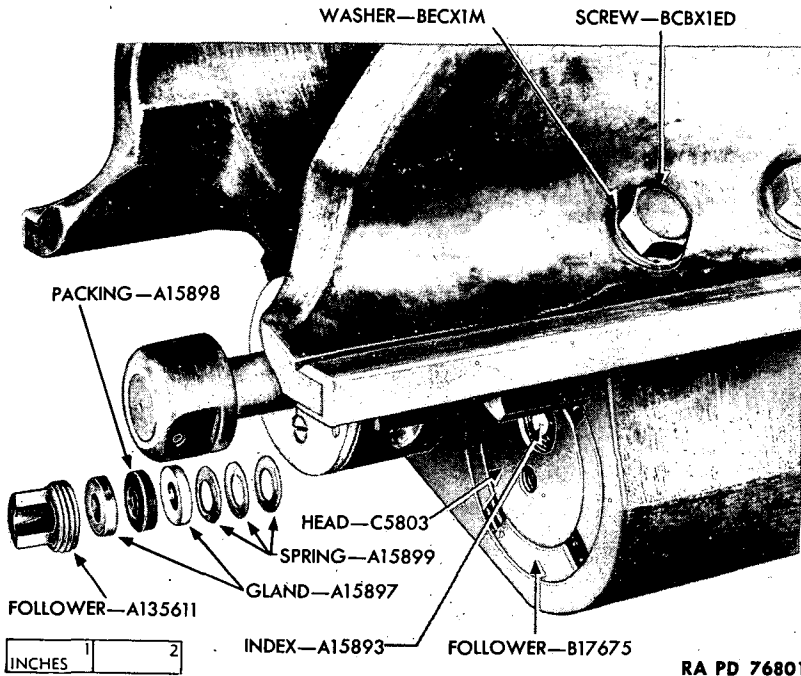

Figure 43—Oil Index—Exploded View
- (1) Clean recoil mechanism and sleigh thoroughly.
- (2) Inspect the recoil mechanism as outlined in paragraphs 12 and 13.
- (3) Oil index projects less than the required distance, due to loss of reserve oil.
- (4) Oil index remains stationary when reserve is pumped in against evident pressure. This is due to packing being too tight, or index broken or locked by some foreign substance.
- (5) **OIL INDEX STICKING.**
- (c) If oil index still fails to function, remove the oil index follower (fig. 43), then pump more oil into the system with oil screw filler to force the packing and springs from the packing recess.